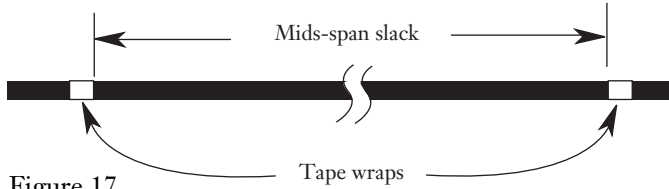

Figure 17
6.3 Determine the amount of slack needed. Place a wrap of tape at each end of the cable sheath that is to be removed (Figure 17).